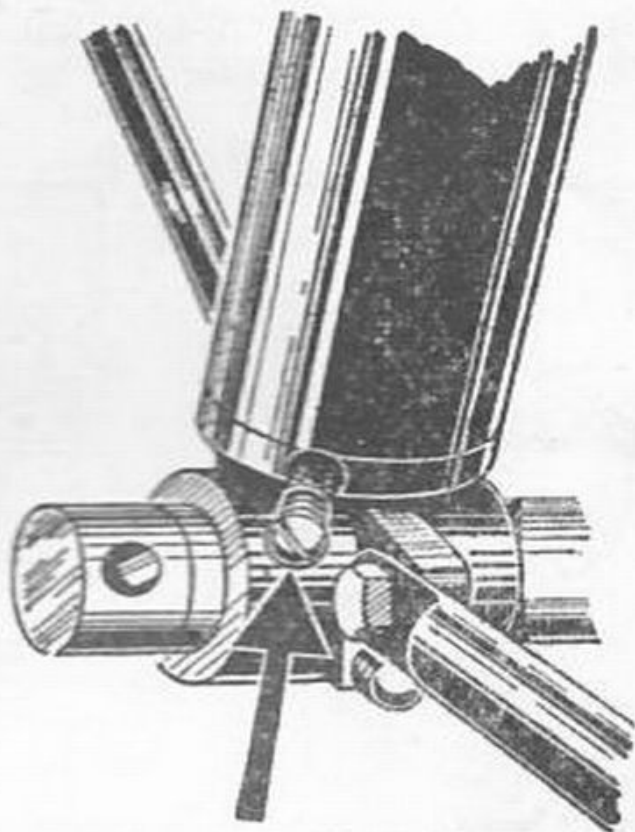

Fig. 24. Front Fork Drain Plug.
*Unscrew the drain plug (Fig. 24) at the bottom of each fork tube.*